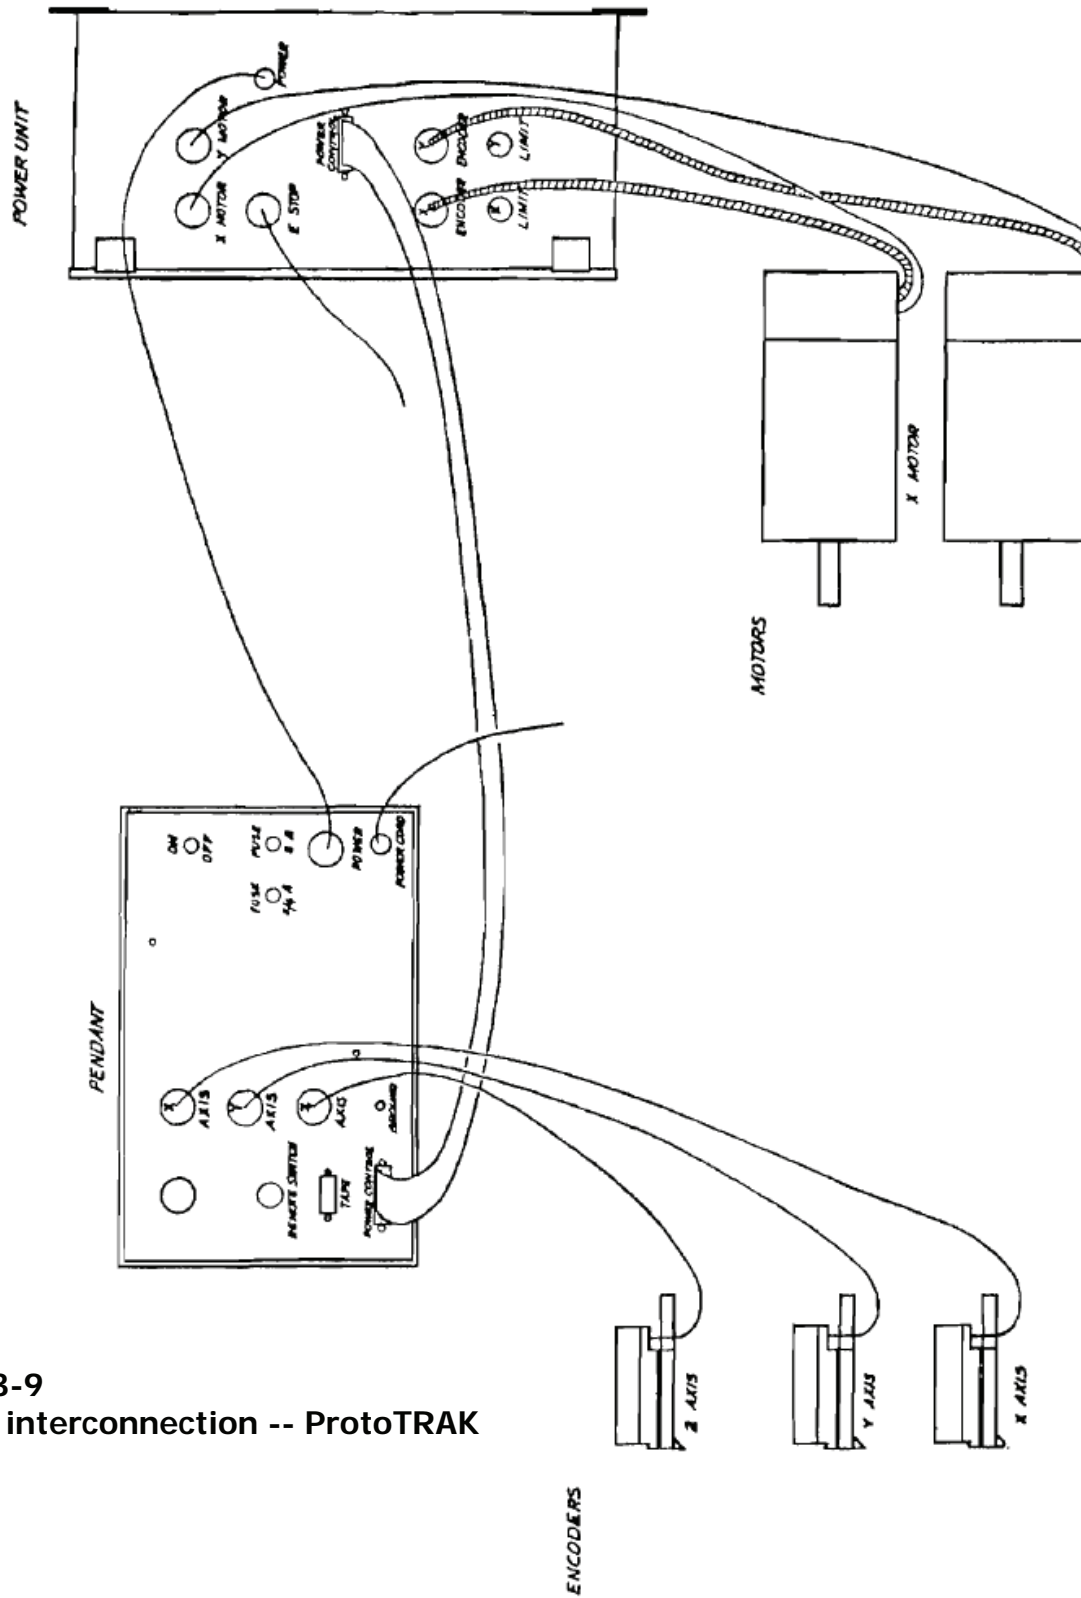

Figure 3-9
Step 1 (see figures 3-9 and 3-10)